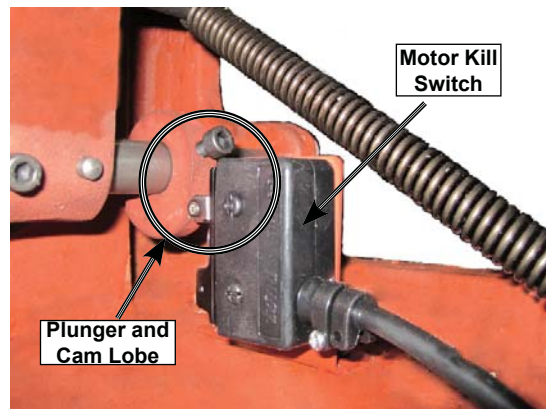

Figure 102. Motor kill switch.
10. Locate the motor kill switch (shown in Figure 102) at the tailstock end of the lathe.